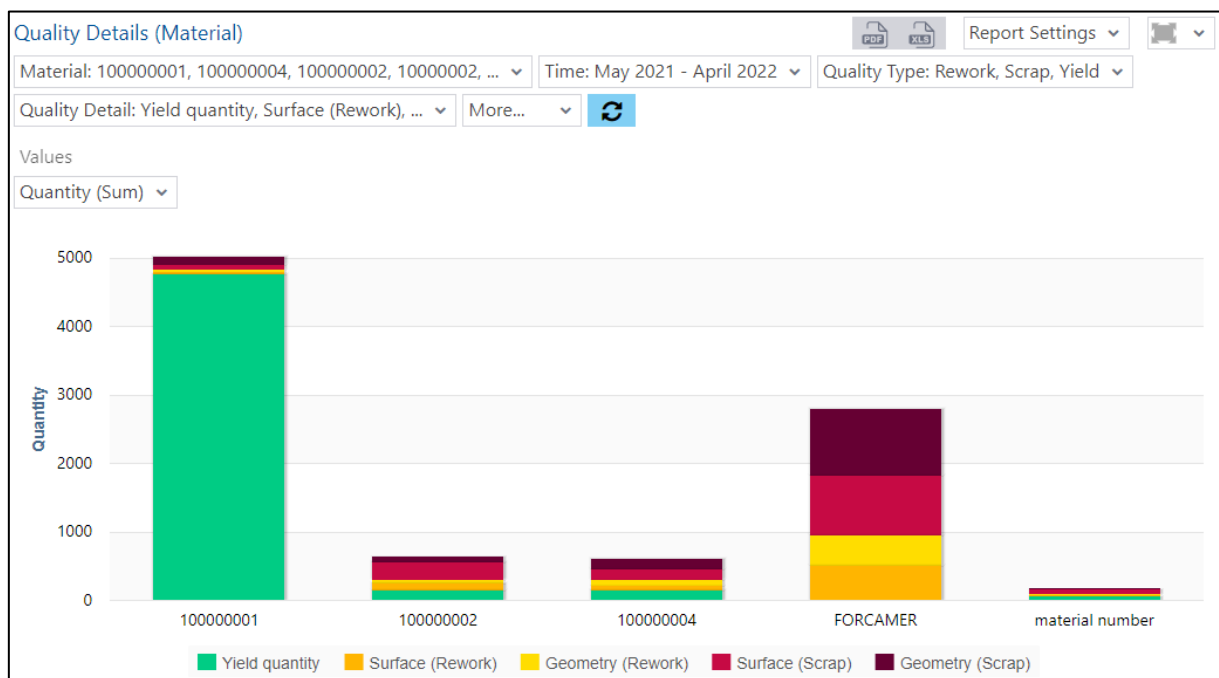

Fig. 117: Quality details (material) as a column chart
- Quality details (material) as a column chart (fig. 117):